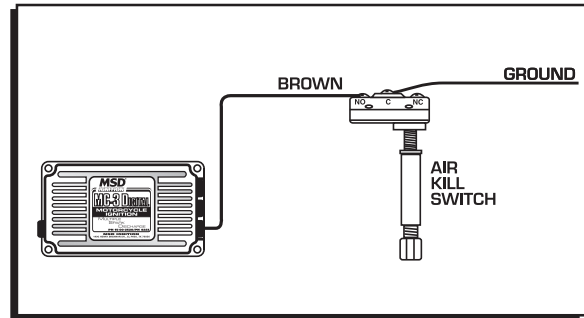

Figure 9 Wiring the Air Shift Interrupt Feature.
To incorporate the Interrupt feature, connect the BROWN wire of the MC-3 to the Normally Open (NO) terminal of the Shift "Kill" switch. Wire the common (C) terminal of the switch to ground (Figure 9).